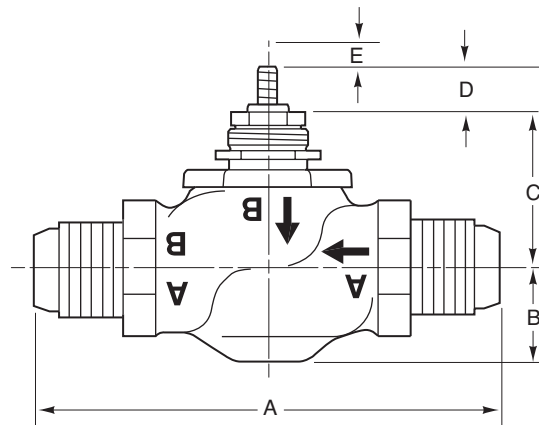

Figure-3 Dimensions for VB-7212 Series Valve Bodies.
**Table-9 Dimensions for VB-7212 Series Valves (Figure-3).**